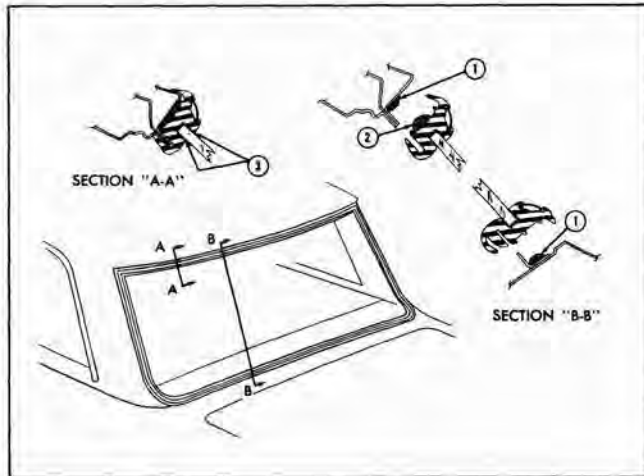

Fig. 5-2 Back Window Sealing
2. Apply a continuous ribbon of medium-bodied sealer (approximately 1/2 inch wide by 1/4 inch thick) on wall of rabbet completely around opening. (See "1" in Section "B-B", Fig. 5-2).
4. Apply a continuous ribbon of medium-bodied sealer (approximately 1/2 inch wide by 1/4 inch thick) to base of rubber channel across the top and down both sides. (See "2" in Section "B-B", Fig. 5-2).
7. Using a pressure type applicator (Pistol type oiler) apply weatherstrip adhesive (black) between rubber channel and glass on inside and outside of glass around entire perimeter of glass. (See "3" in Section "A-A" Fig. 5-2). Application should be continuous with no skips.